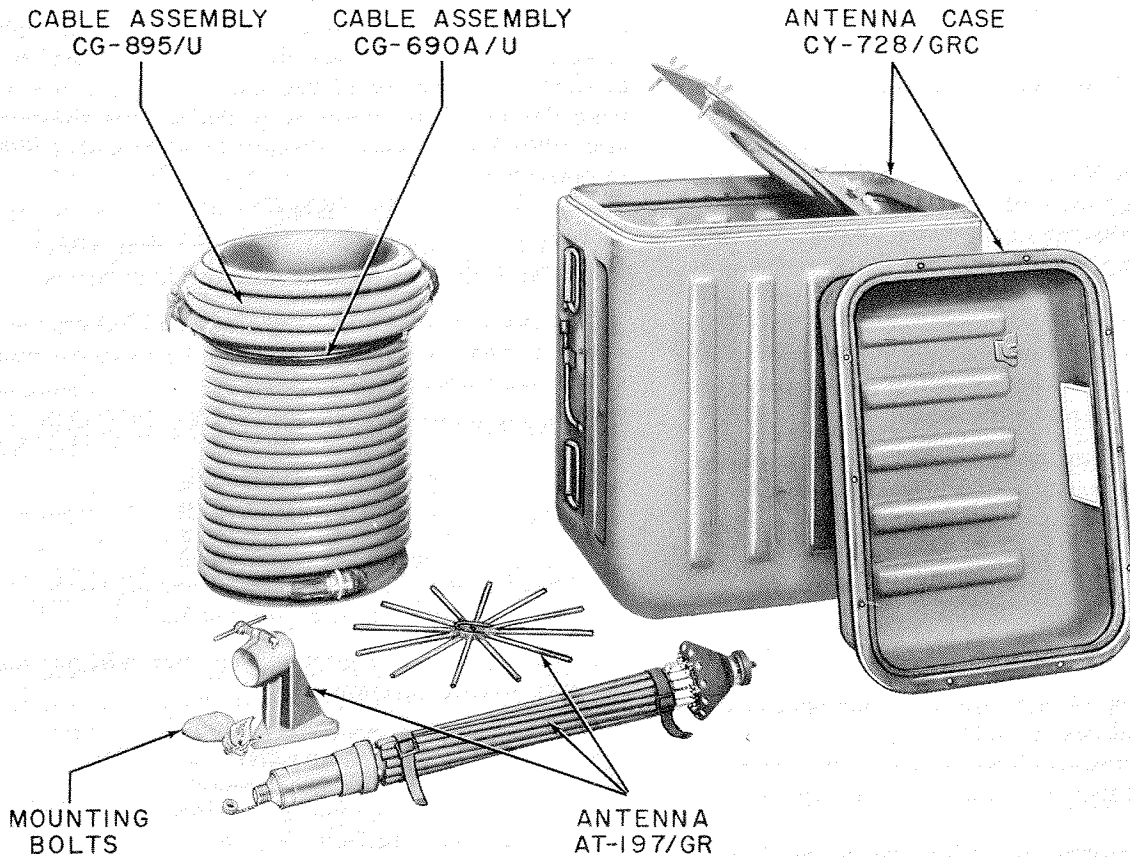

Figure 3-9. Contents of Antenna Case CY-728/GRC
- Open Antenna Case CY-728/GRC (figure 3-9). Remove the antenna support and bolt it to the mounting assembly on the crossarm with the bolts supplied in the small bag.